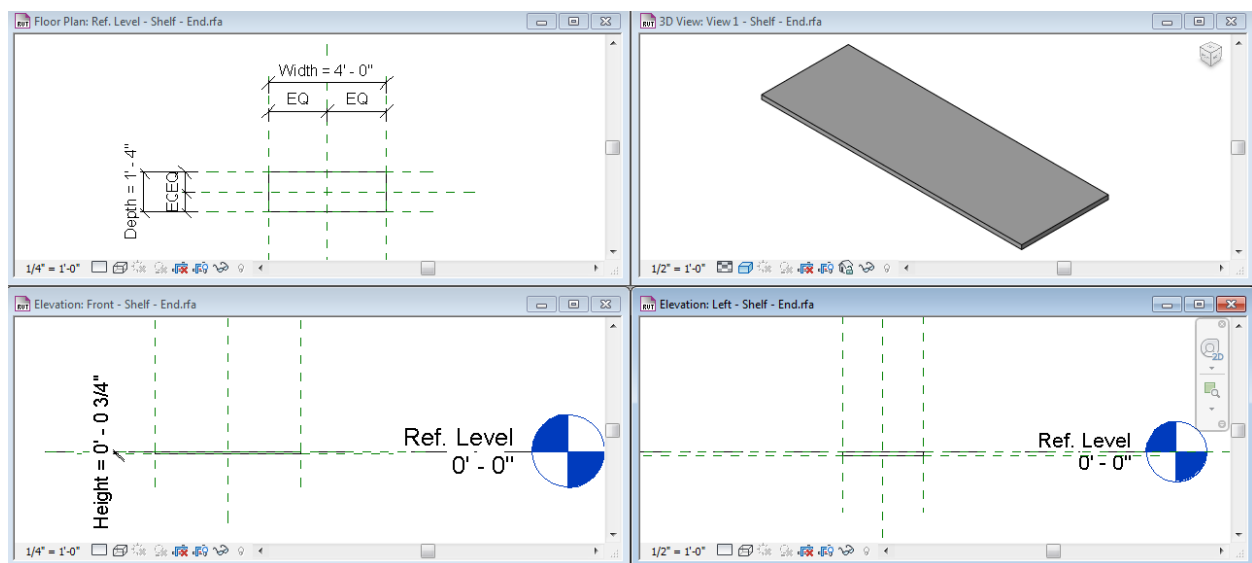

Figure 16
2. Assuming there are no errors, click OK and then **Save** the file (see Figure 16).